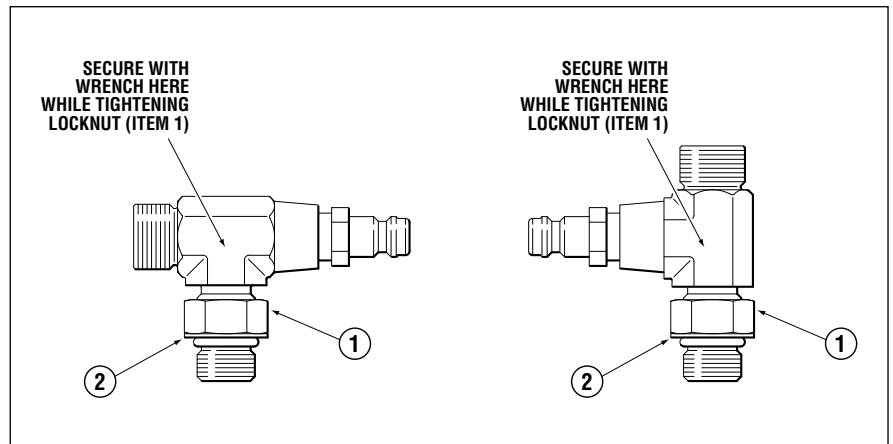

Figure 21.
1. Back off lock nut (item 1, figure 21), counter-clockwise, until it stops.
2. Thread fitting into cylinder body until fitting washer (item 2, figure 21) contacts the face of the cylinder port. Tighten hand tight, DO NOT TORQUE FITTING INTO GLAND.
4. While holding fitting with a wrench, tighten the locknut (item 1, figure 21) and torque to 40–43 ft-lb.
Failure to properly tighten the locknut (item 1, figure 21) may lead to loss of steering control. Loss of steering control may result in unpredictable boat behavior, collision with an obstacle and/or ejection from vessel, leading to property damage, personal injury and/or death.